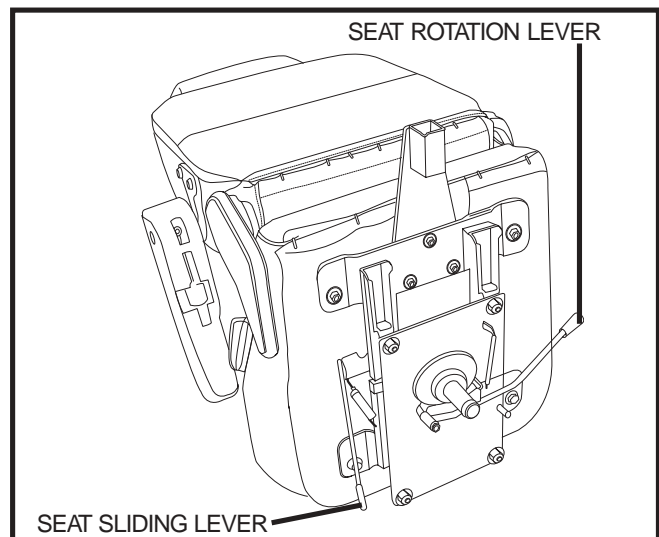

Figure 16A. Seat Adjustment Levers
1. Push forward on the seat rotation lever to disengage the seat. **See figure 16A.**
You can reposition the seat forward or rearward to adjust the distance between the seat and the tiller. **See figure 16A.**